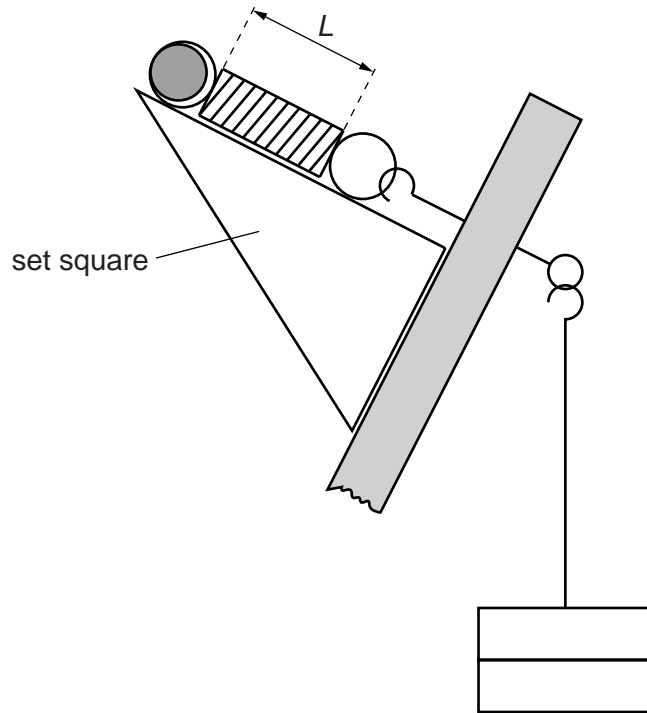

Fig. 1.2
- (b) (i) Adjust the height of the boss so that the spring is perpendicular to the wooden strip. Use the set square to check that the strip and spring are perpendicular to each other by placing it **gently** as shown in Fig. 1.2. Any contact of the set square with the strip will cause the apparatus to move.
- (ii) Measure and record the length  $L$  of the coiled part of the spring as shown in Fig. 1.2.